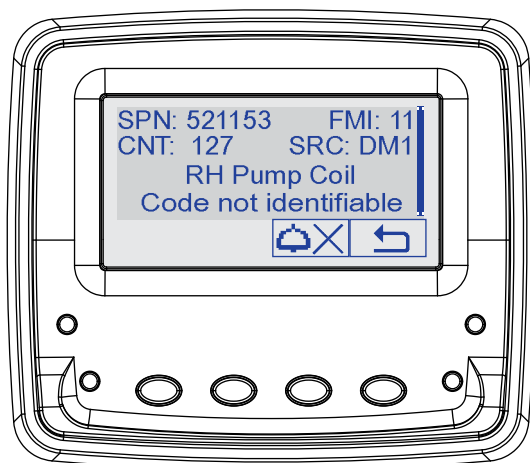

Figure 60. Diagnostic Display (Fault Code Screen)
1. Press the button on the right side of the display to view the active fault code (Figure 60).